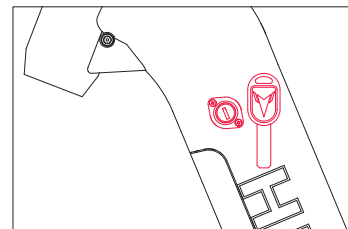

Figure 4
**NOTICE:** Please keep your key and its spare in a safe place. Once lost, they are difficult to copy. The key number correlates to the number on the keyhole (fig. 4). If you have lost the keys, you can give us the key number to get new keys.